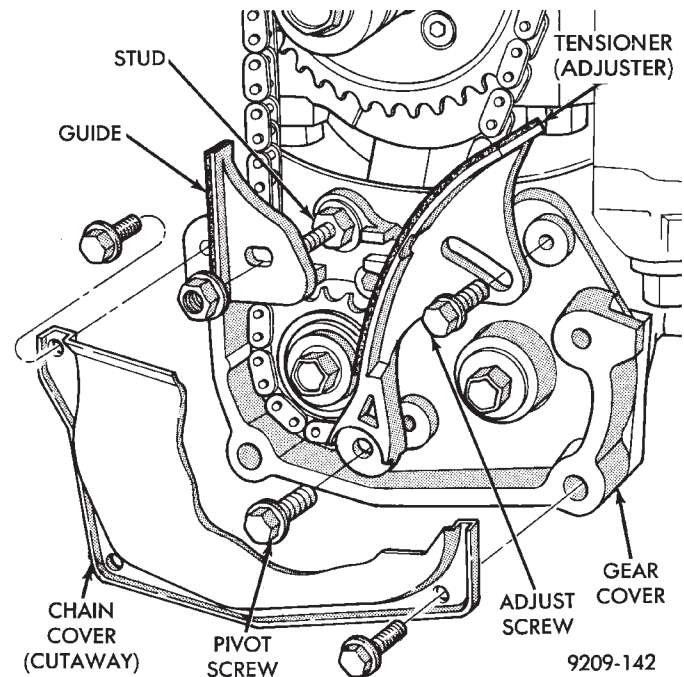

Fig. 16 Chain Cover, Guide and Tensioner
(1) Remove chain cover, guide and tensioner (Fig. 16). Also see Carrier Assembly Removal for service procedures requiring only temporary relocation of assembly.